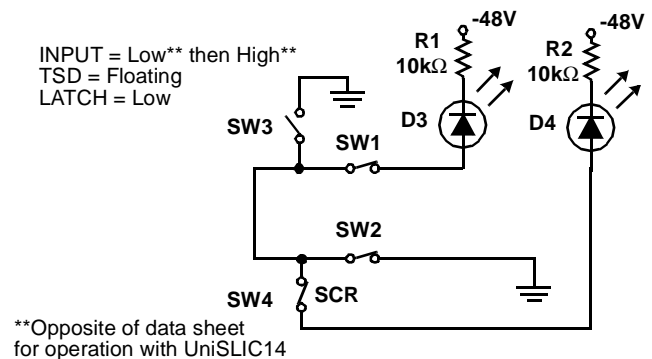

FIGURE 4. ILLUSTRATION WHEN SCR REMAINS ON
Access switch (SW4) are ON (Closed). The Ring Return switch is off (Open). Reference Figure 4.
The Ring Access switch (SW4) of the ISL5571A is an SCR. The operation of this SCR requires that the current through it approach zero to enable the SCR to unlatch (turn off). Figure 4 illustrates the condition where the logic has been configured to turn SW4 off, yet it remains on due to the DC
17. Set the INPUT switch to the high position. Verify that both the Line Break LED (D3) and the Ring Access LED (D4) are both on. Reference Figure 4 and discussion of SCR above.